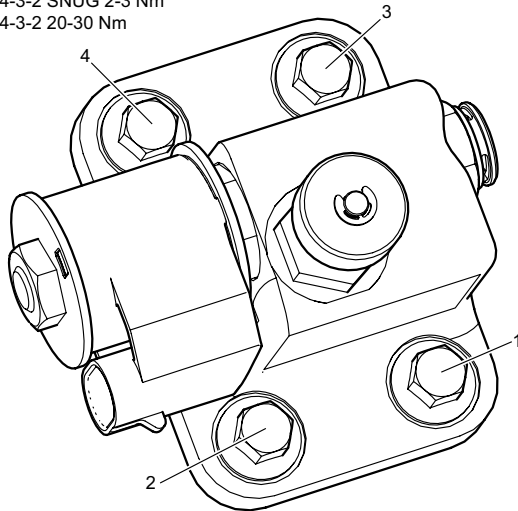

Figure 34 – Supply Circuit Torque Sequence
6. While holding the supply circuit valve assembly, install the four (4) bolts and hand tighten.
7. Torque the bolts using the sequence and torques shown in Figure 34.